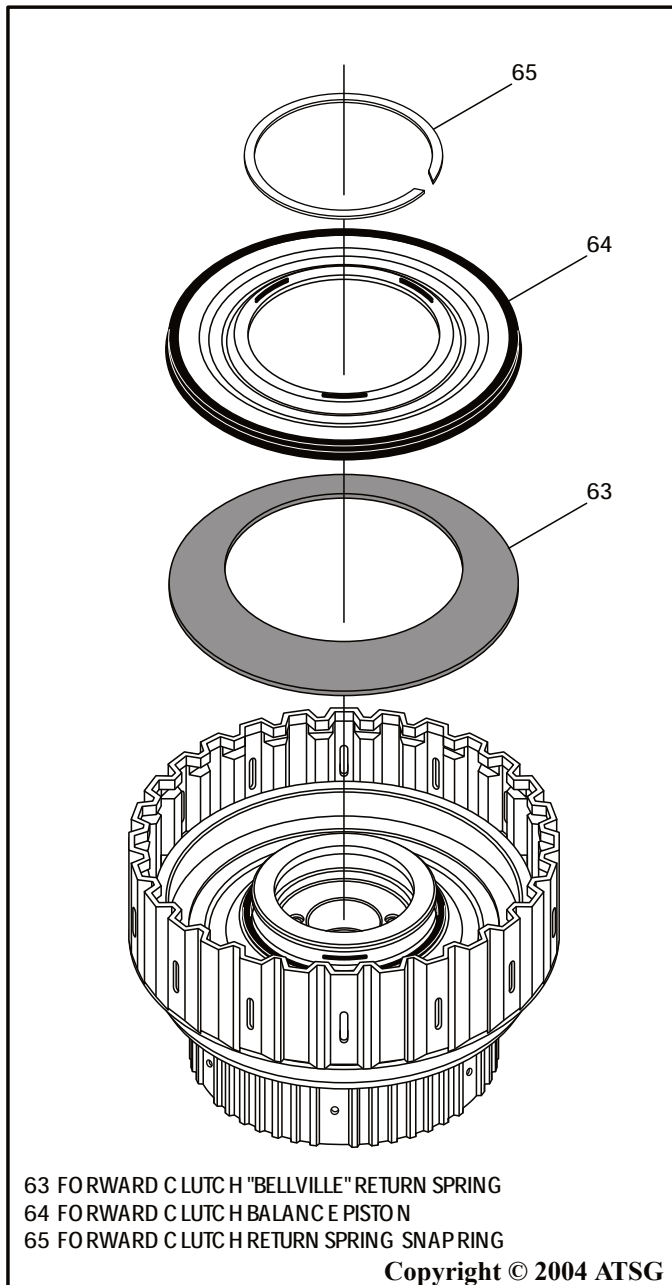

Figure 124
7. Install forward clutch piston return "Bellville" spring on top of the forward clutch piston in the direction shown in Figure 124.
8. Lubricate the seal and install the forward clutch balance piston, as shown in Figure 124.
9. Compress the return spring and balance piston and install snap ring (See Figure 124).